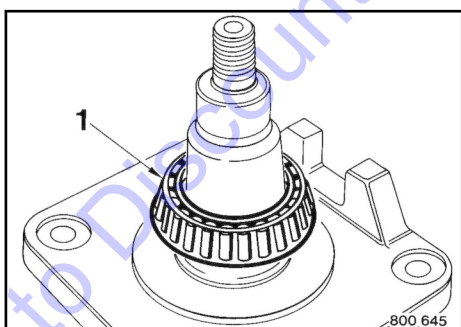

Fig. 196
12. Pull taper roller bearing 1 ↗ Fig. 196 off the bearing journal.